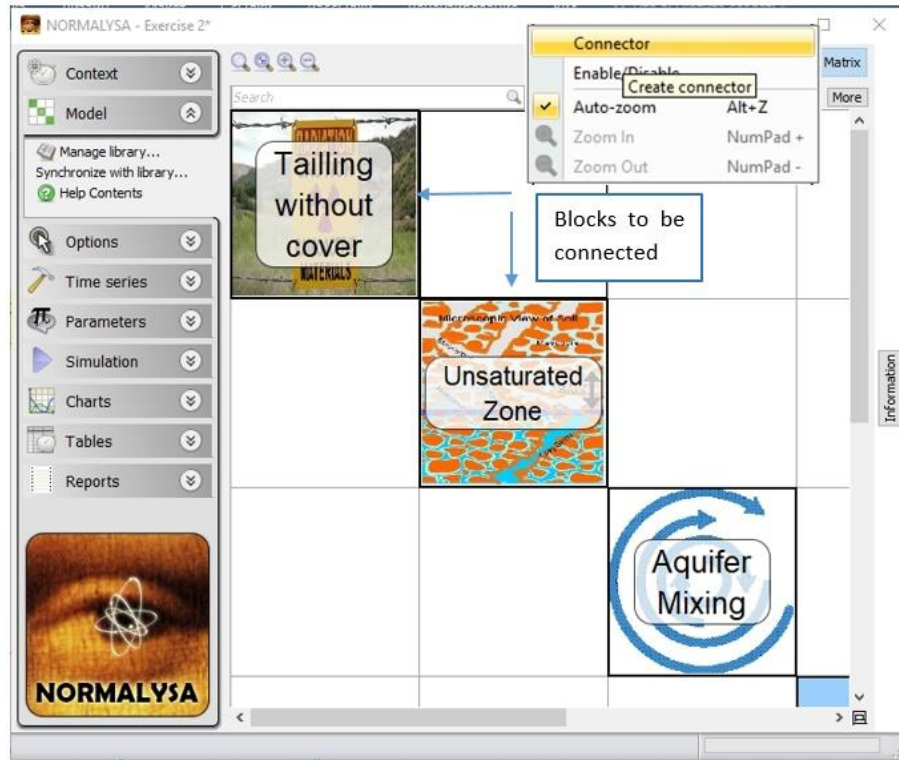

FIG 8. Connecting modules using “connector” blocks for data exchanges.
1. To create a new “connector” block, right-click on the off-diagonal element of the matrix window projected (horizontally, vertically) on diagonal blocks that need to be connected, and chose ‘*Connector*’ from the pop-up menu (FIG 8).